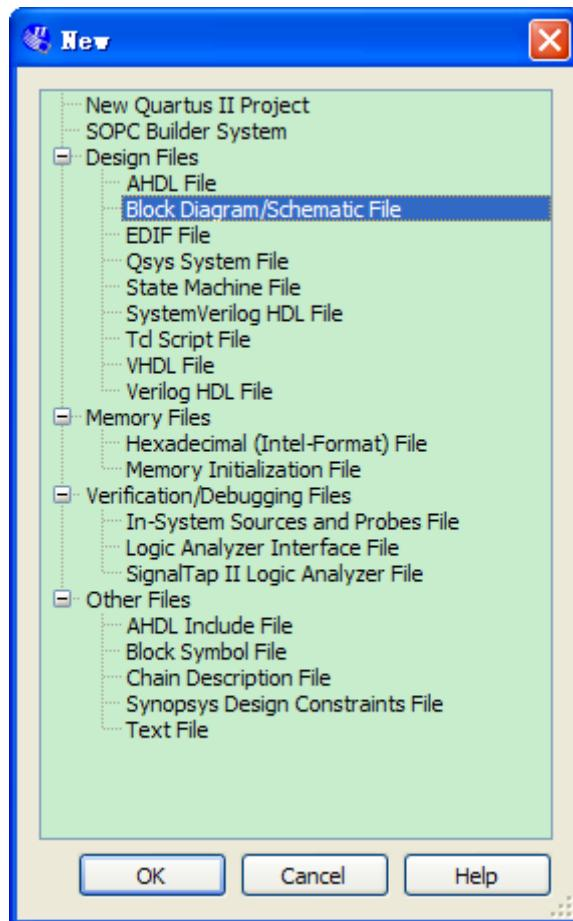

Figure 6-12 New BDF
1. Select **File > New > Block Diagram/Schematic File** (see **Figure 6-12** to create a new file, **Block1.bdf**, which you will save as the top-level design.